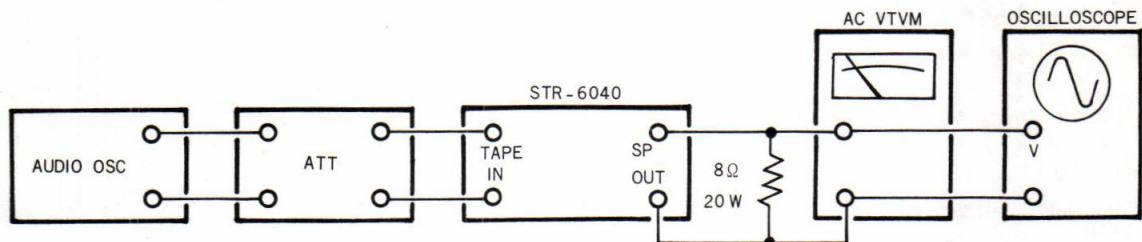

Fig. 4-6 Ac balance adjustment test set-up
- With the equipment connected as shown in Fig. 4-6 and the power switch in the ON position, feed a 1 kHz, 0 dB signal to the TAPE IN terminal.